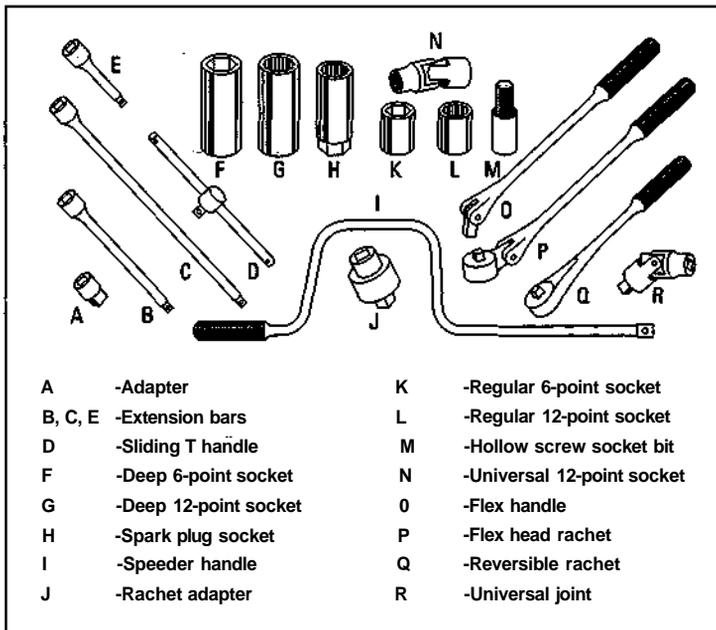

Figure 2-9:
- ✓ **At least one ratchet handle, to which you can fit any of the sockets:** Most sets have two or three handles with at least one adapter. You may want to add additional adapters to extend the handle to different sizes and adapt it to different drives. Figure 2-9 shows the wide variety of sockets, handles, and adapters available.